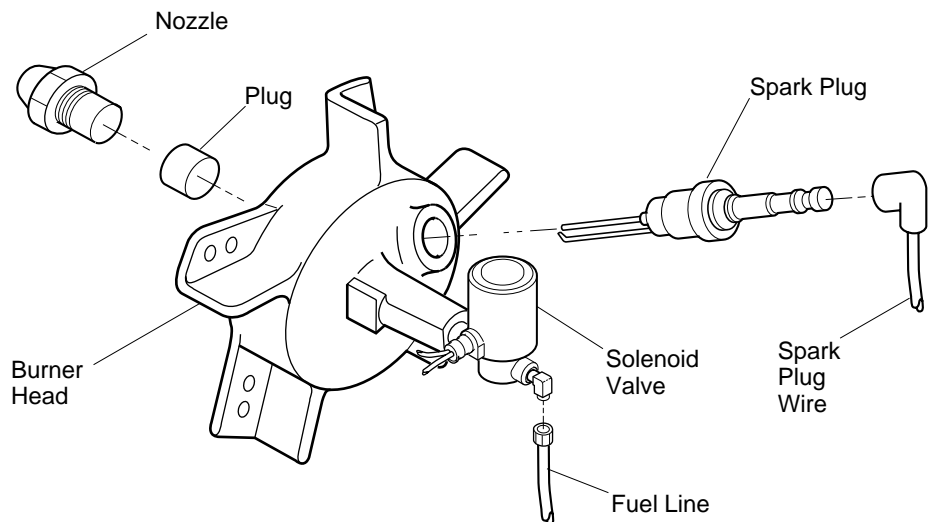

Figure 9 - Replacing Nozzle
7. Carefully remove nozzle from burner head using 5/8" socket wrench (see Figure 9).